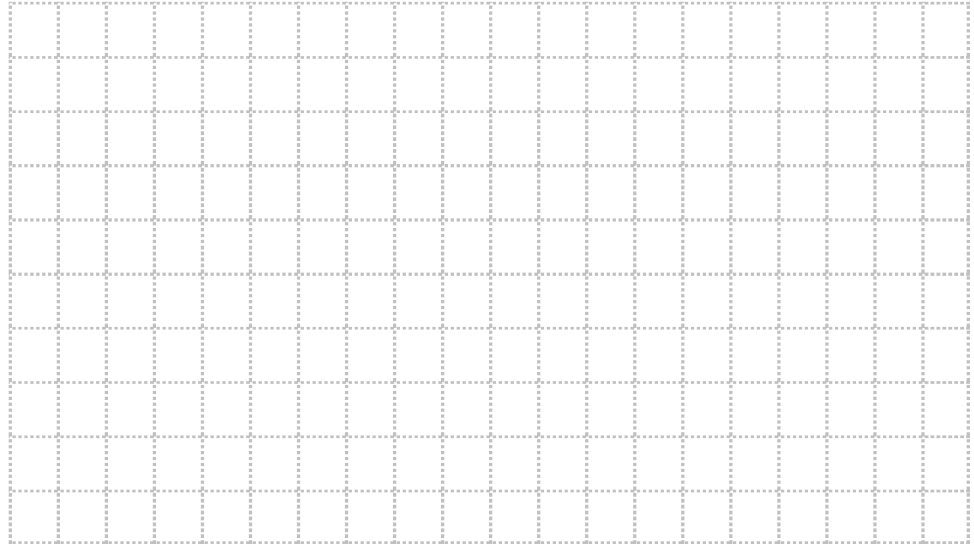

Figure 1-6. Flow rate versus speed curve.
- 12. Plot the flow rate versus speed (30 Hz \approx 1725 r/min) curve in Figure 1-6.